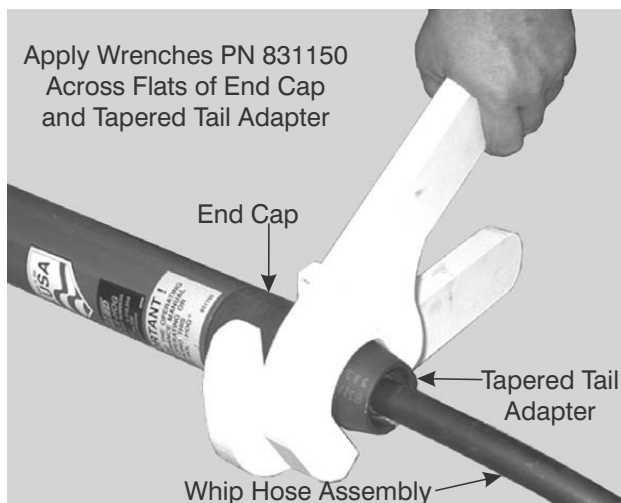

Figure 11-31. Secure Tail Adapter to End Cap.
5. With the End Cap secured as described in step 1 above, fit one of the End Cap Wrenches (831150) across the flats of the Tapered Tail Adapter (13) as shown in Figure 11-31.
6. Tighten the Tapered Tail Adapter (13) until it is securely fastened to the End Cap.